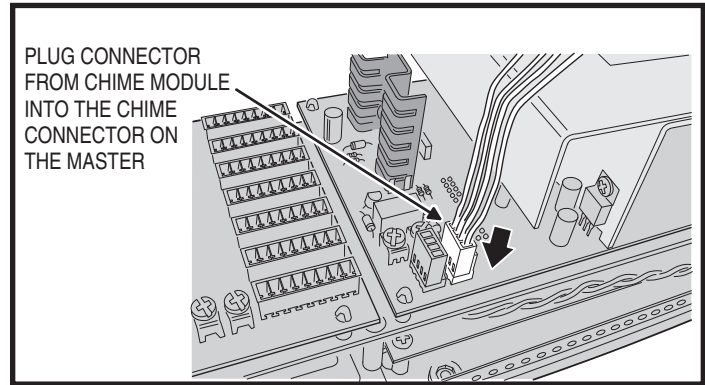

Figure 15. Chime Module Connection to Master Station
2. If a chime module was installed, plug the chime module's connector into the CHIME connector on the DMC1 circuit board (see Figure 15).